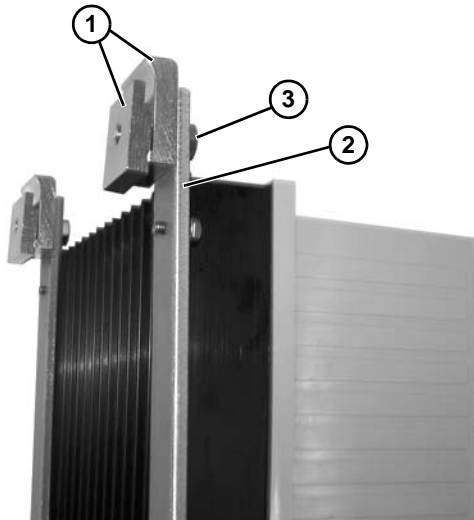

Figure 16
- Loosely attach clips (Figure 16, item 1) to mounting bar (Figure 16, item 2) with screws (Figure 16, item 3).